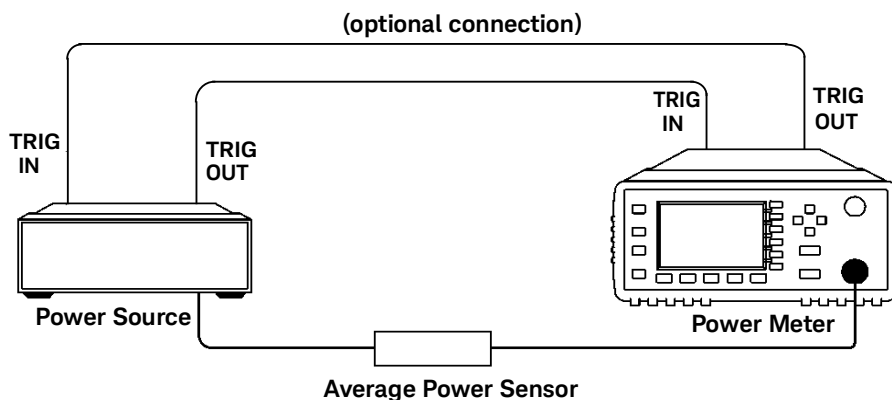

Figure 3-19 TRIG IN and TRIG OUT connection diagram between power meter and power source
These modes are used to eliminate the need for lengthy test routines, while increasing measurement throughput by reducing overhead of communication with the controller. The sweep feature allows you to make power measurement by quickly stepping through a series of frequencies or power levels. Configuration shown in Figure 3-19 illustrates the triggering connection required to synchronize power meter measurement to the power source settings.
- 2 Connect power meter **TRIG OUT** to power source **TRIG IN** using a BNC cable. The same connection is applied for power source **TRIG OUT** to power meter **TRIG IN**. See Figure 3-19.